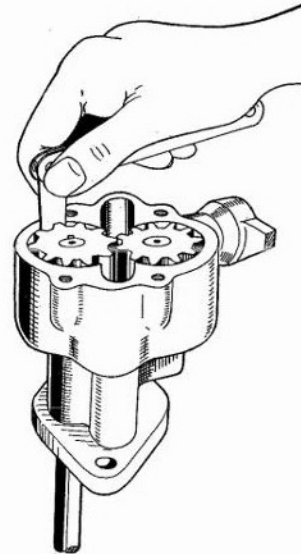

Fig. B.67. Checking the oil pump gear side clearance, using a feeler gauge
- (a) Check the clearance between the gear wheel teeth and the pump body, as shown in Fig. B.67. The minimum clearance should not be less than .0019 in. (.048 mm.) and the maximum not more than .0049 in. (.124 mm.).